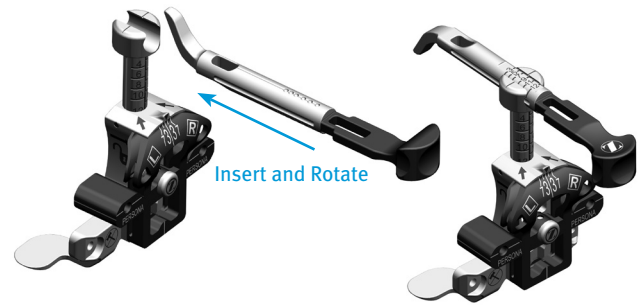

Fig. 50
- Assemble the Posterior Referencing Sizer Boom with the Posterior Referencing Sizer (Fig. 50).